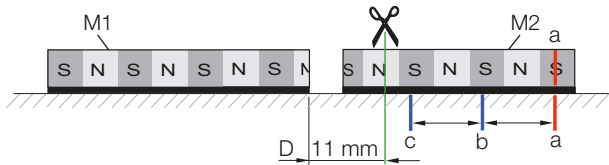

Fig. 4-11: Cut at 11 mm
- Cut tape M2 so that the resulting distance D between both tapes is 11 or 21 mm (width of 1 pole pair + 1 mm for fine positioning). The gap between the two tape ends indicates where to cut (Fig. 4-11).